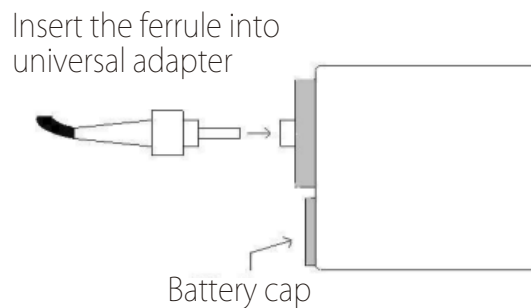

Figure 3
1. Begin by loading the polished connector into the adapter. If you have purchased our Universal Adapter, simply slide the connector ferrule (2.5mm) into the hole until you feel it hit a stop (see figure 3). It may require a little pressure to get it started as our Universal adapter is equipped with a no-slip gripping mechanism. It is important to slide the connector ferrule all the way to the stop. This will minimize any refocusing that needs to be done when changing from one connector to the next. If you have purchased one of the dedicated adapters, insert the connector just as you would into a patch bay or mated connector.